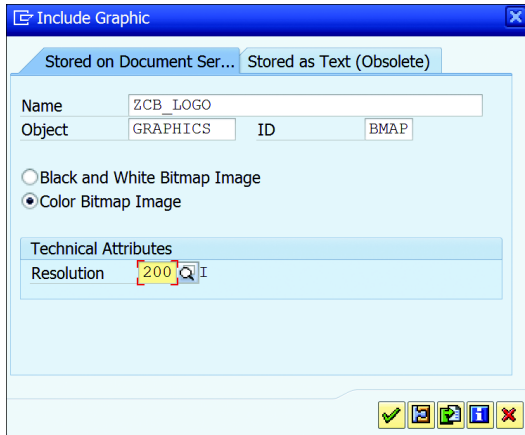

Figure 18.14 Insert Graphic
4. You want to print a logo in this window, so insert the logo that you uploaded in the previous step by keeping the cursor in the ROW TEXT column and following the menu path INSERT • GRAPHICS. Here, select the STORED ON DOCUMENT SERVER tab and provide the name of the logo and its type, as shown in Figure 18.14. Optionally, you can also specify the image resolution to be used. If the logo isn't already uploaded to the document server, you can click the IMPORT button on this window to upload the logo. Once the details are maintained, click OK to include the logo.